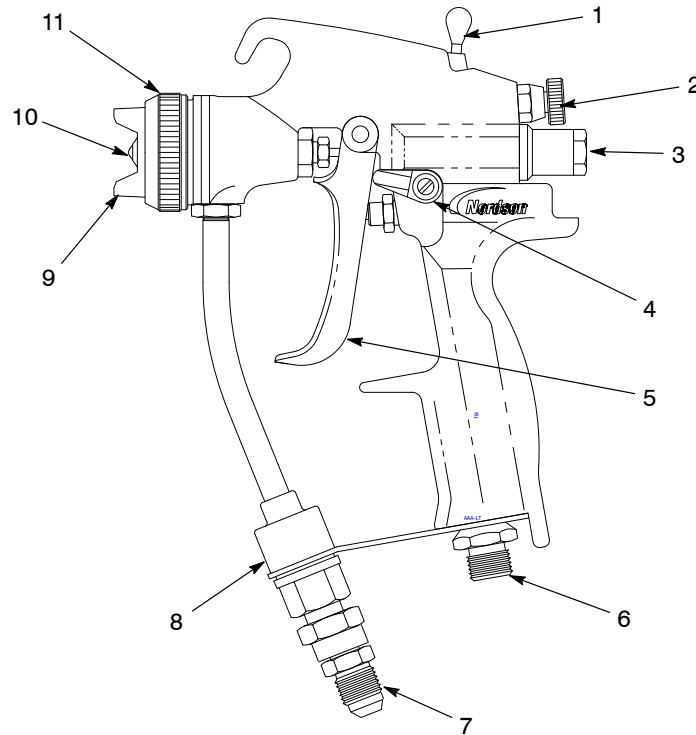

Figure 1 Spray Gun Components
See Figure 1. Rotate the atomizing air regulator (1) to the right (clockwise) to decrease air flow, to the left (counterclockwise) to increase air flow.
See Figure 1. Rotate the fan pattern regulator (2) to the right (clockwise) to decrease air flow, to the left (counterclockwise) to increase air flow. At minimum flow, the pattern is flat; at maximum flow the pattern is round.